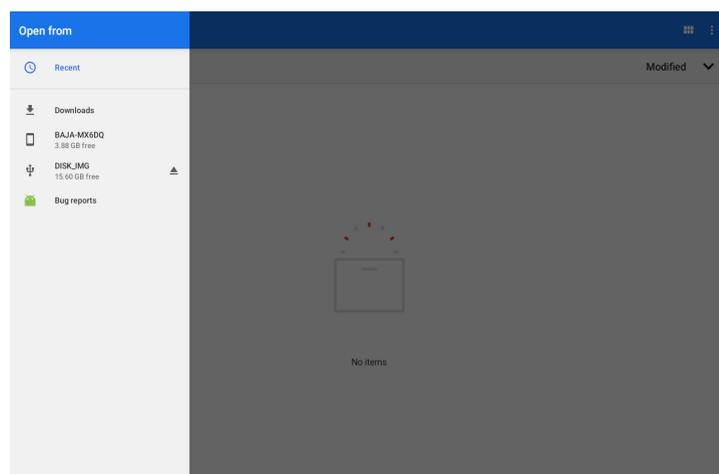

Figure 32.2. USB menu.
- Press the three lines on the top left corner (Figure 32.2).